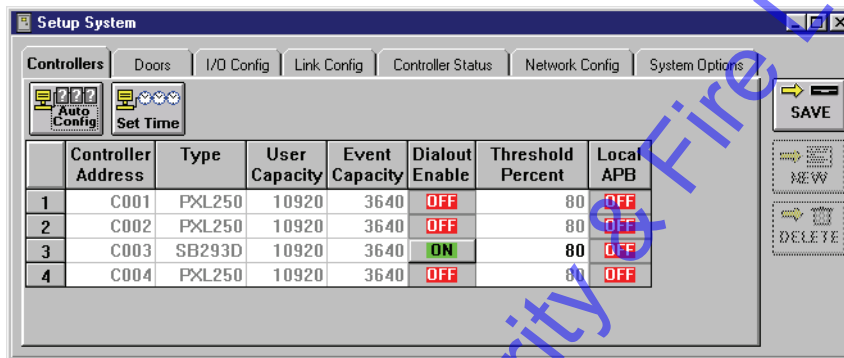

Figure 3-15: Controller Dial-out Parameters – Enabled
- To enable controller dialout, click on the **Dialout Enable** button. It will change to  and the text in the “Threshold Percent” column should change color from grey to black (see Figure 3-15). When this text is black, the threshold percent value is editable.
1. To disable the controller dial-out parameters, click on the Setup ⇒ System pull-down menu or click on the  tool bar button. Then click on the **Controllers** tab. The Controllers window appears (see Figure 3-15 on page 22 of this section).
1. To enable anti passback, click on the Setup ⇒ System pull-down menu or click on the  tool bar button. Then click on the **Controllers** tab (see Figure 3-15 on page 22 of this section).